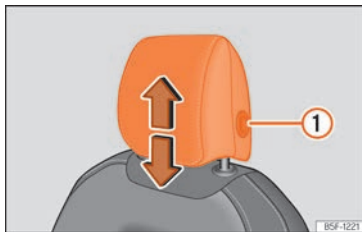
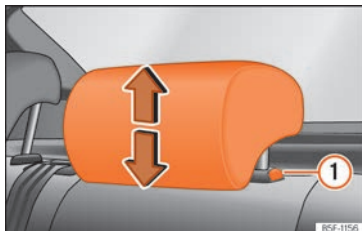

Fig. 115 Front seat: headrest adjustment.
Fig. 116 Rear headrest: headrest adjustment.
- Grab the sides of the headrests with both hands and push upwards to the desired position. To lower it, repeat the same action, pressing the ① »» Fig. 115 »» Fig. 116 button on the side.